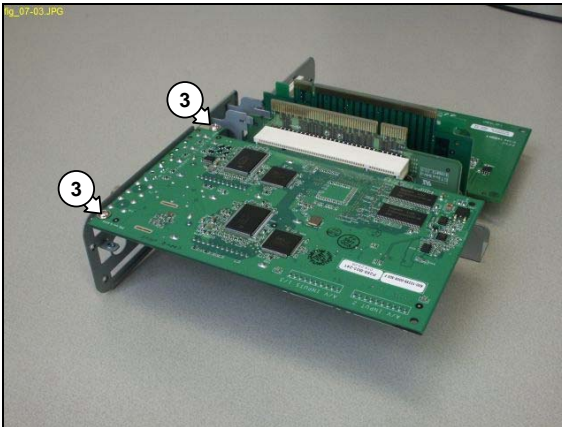

Figure 12.7-3
5. Remove the 2 mounting screws (3) from the TV tuner card. See Figure 12.7-3.